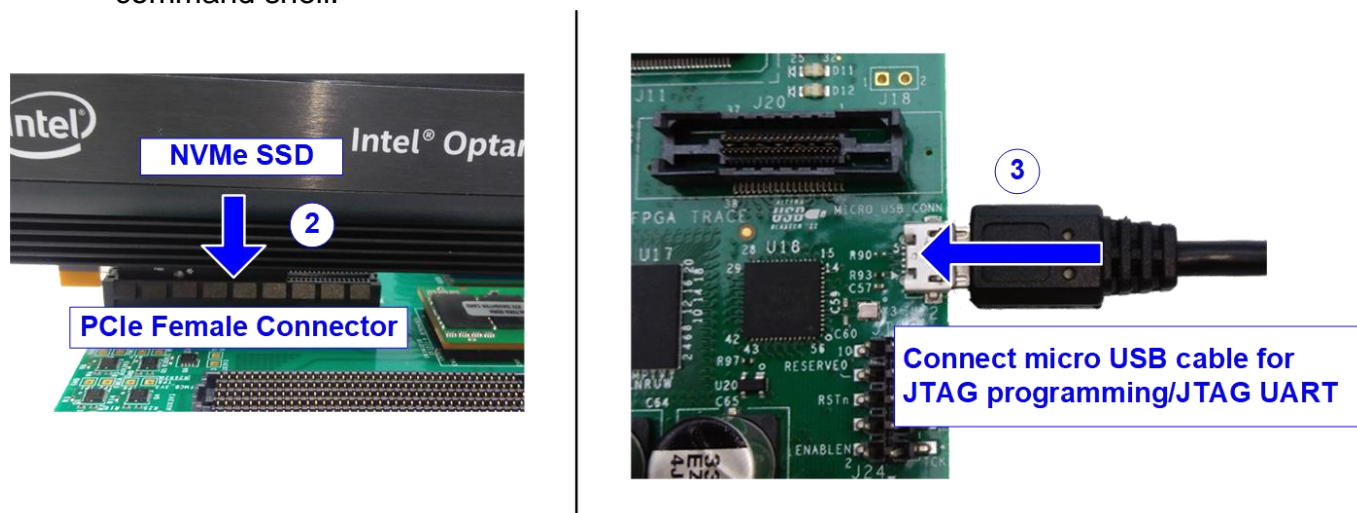

Figure 2-9 NVMe PCIe SSD connection on FPGA board
- 2) Connect NVMe SSD to PCIe connector on FPGA board, as shown in Figure 2-9.